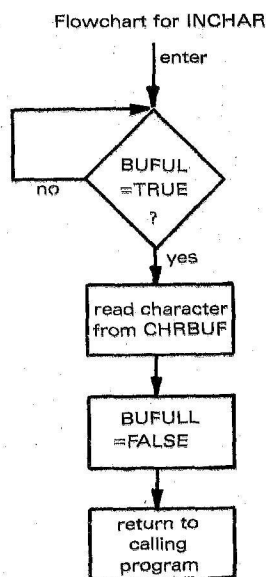

Figure 3
2. INCHAR - The input character routine (See Figure 3.)